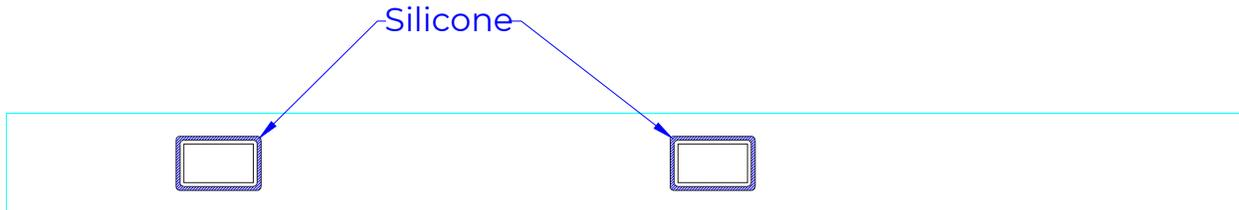

FIGURE 4
- For electrical cutouts in backsplashes, a 50-year, 100% silicone must be applied around the entire perimeter of the cutout to secure the backsplash to the wall. See Figure 4.